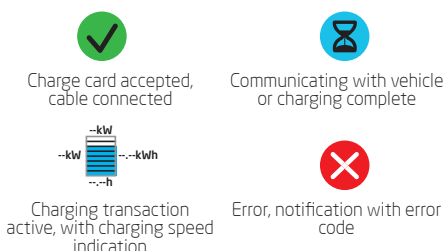

Figure 2: Symbols status indicator
- ③ Status information
- ④ Status indicator (symbols, see figure 2)
- ⑤ Current charging capacity to the connected vehicle
- ⑥ Maximum charging capacity of the outlet
- ⑦ Energy picked up during the current transaction
- ⑧ Duration of the current transaction